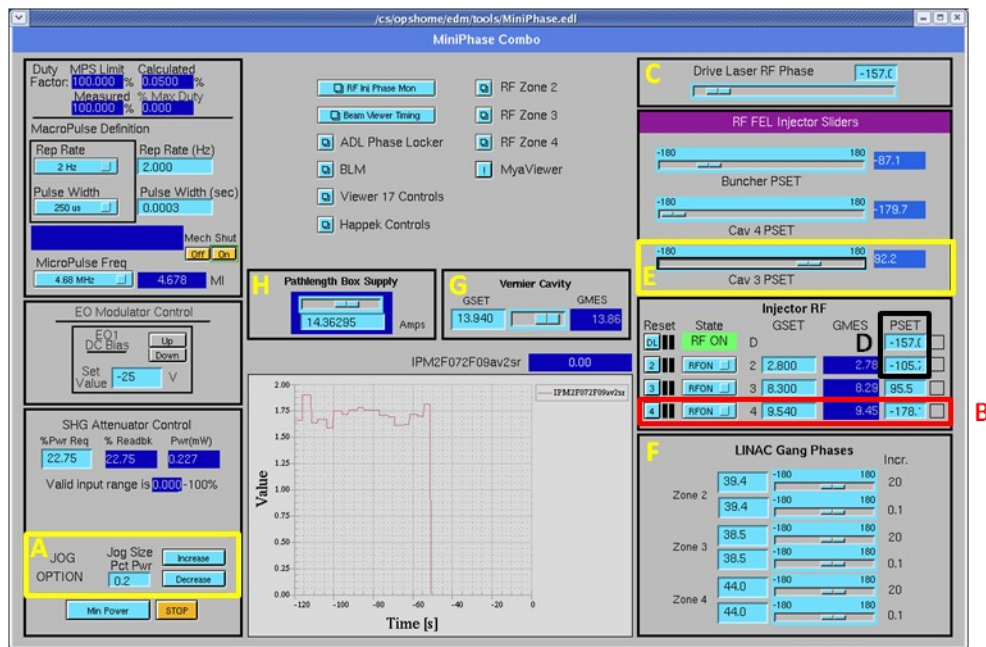
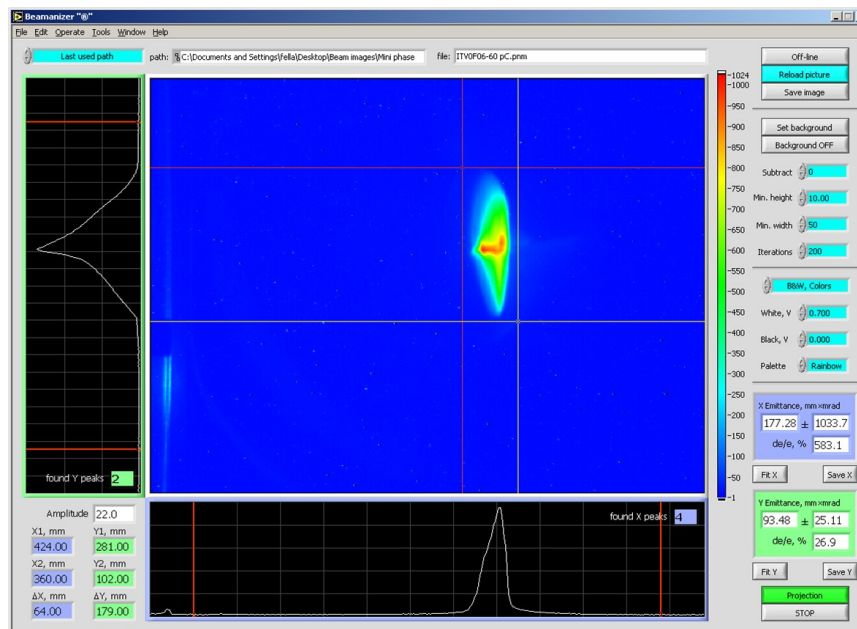

Figure 1-1: Screenshot of the Miniphase Combo screen.
Figure 3-2: ITV0F06 as viewed with the Beamanizer.
- Adjust the drive laser polarizer (labeled "A" on Figure 1-1) to excite the Unser monitor as observed on Tekscope B (green trace, channel 4) to 140 mV. Is there sufficient charge as measured on Tekscope B?
- B Volts** for **Qtr Cryo 4** should read 0.2280. If it does not, change the gradient in zone 1 cavity 4 by steps of 0.01 MV/m until it does (labeled "B" on Figure 1-1). **NOTE:** it takes several seconds for the value to update.
5. While monitoring the Beamanizer image of **ITV0F06**, adjust the drive laser phase (labeled “C” on Figure 1-1) to restore the beam to the standard **ITV0F06** image (see Figure 3-2).
- Adjust the laser phase and buncher phases in 1° increments, remembering to adjust the laser phase 1° for every degree of buncher adjustment (labeled "D" on Figure 1-1). The goal is to adjust the phases such that the spot approximately matches the preloaded shape boundaries.
5. Take the Beamanizer on-line. The present condition of the beam at **ITV0F06** will be displayed (see Figure 3-2).
- A. **NO** Set the increment on Cavity 1-3 phase slider to 0.1° (labeled “E” on Figure 1-1) and adjust to match the preloaded image. The goal is to adjust the phase so that the spot approximately matches the preloaded shape boundaries **YES** Continue to Step 7.
1. Decrease the gang phase by 20° in Zone 2 (labeled “F” on Figure 1-1).
gradient (labeled “G” on Figure 1-1). A step size of 0.01 MV/m should be used for adjustments. See Figure 7-2 for typical scope display of the Golay cell.
"H" on Figure 1-1). This is accomplished by centering the beam spot vertically on the 1G01 viewer. Adjust the **Current Setpoint** in 0.1 A increments to minimize the vertical beam spot size on the 1G01 viewer.